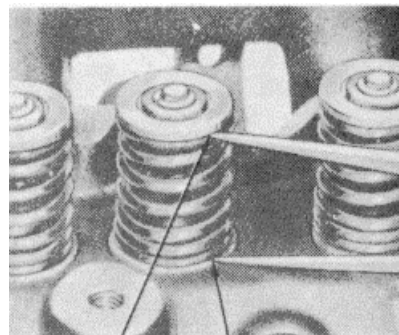

FIG 62 Checking Valve Spring Assembled Height
5. Measure the assembled height of the valve spring from the surface of the cylinder head spring pad to the underside of the spring retainer with dividers (Figure 62).